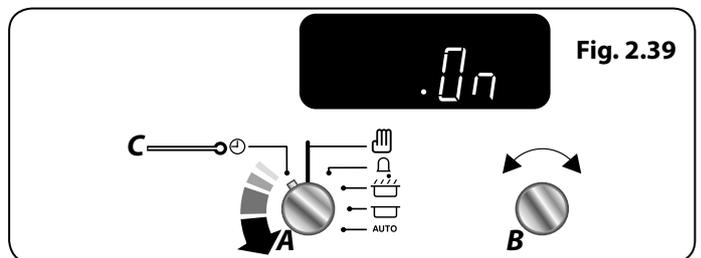

Fig. 2.39
2. Turn the **Timer (A)** knob to the **Clock (C)** setting and hold for approx 8 seconds. The display will show 'ON' (**Fig. 2.39**).